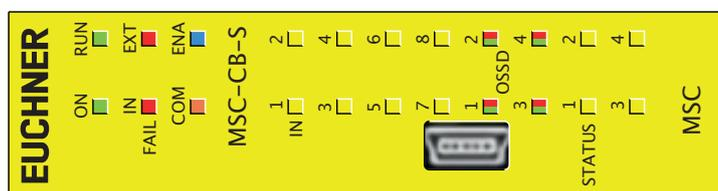

Figura 14:
8.3.2. Modulo base MSC-CB-S (Figura 14)